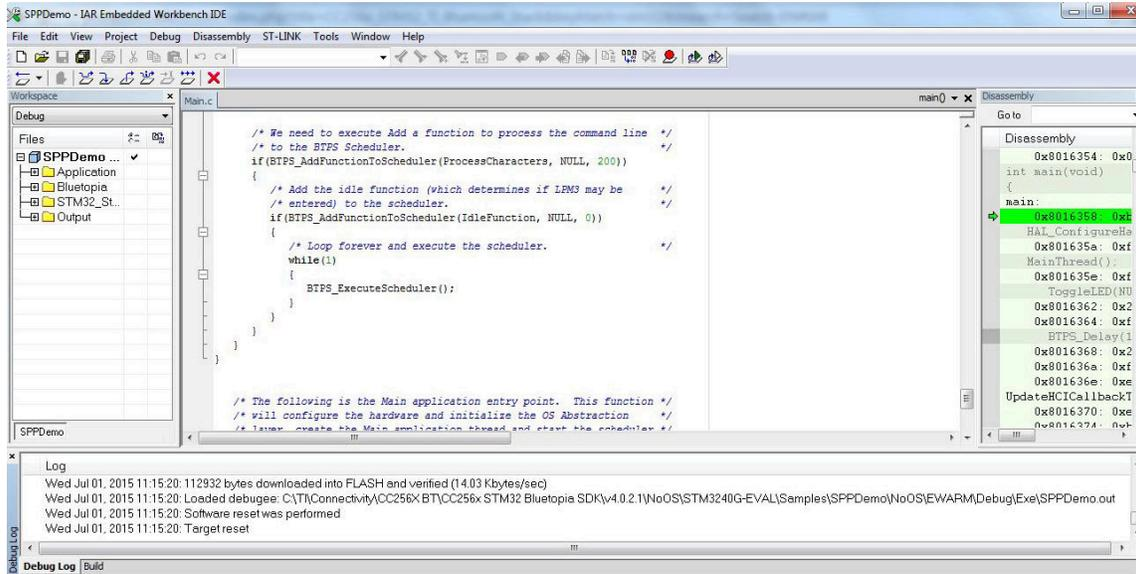

Figure 7-3. Debugging Screen
9. Click the red X icon in the IDE to stop debugging. (See Figure 7-3.)